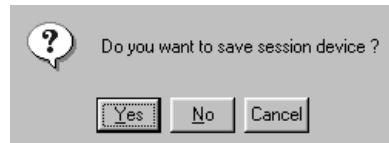

Figure 11: Save Session dialog box
12. Click **Yes**. A message box displays (Figure 11).